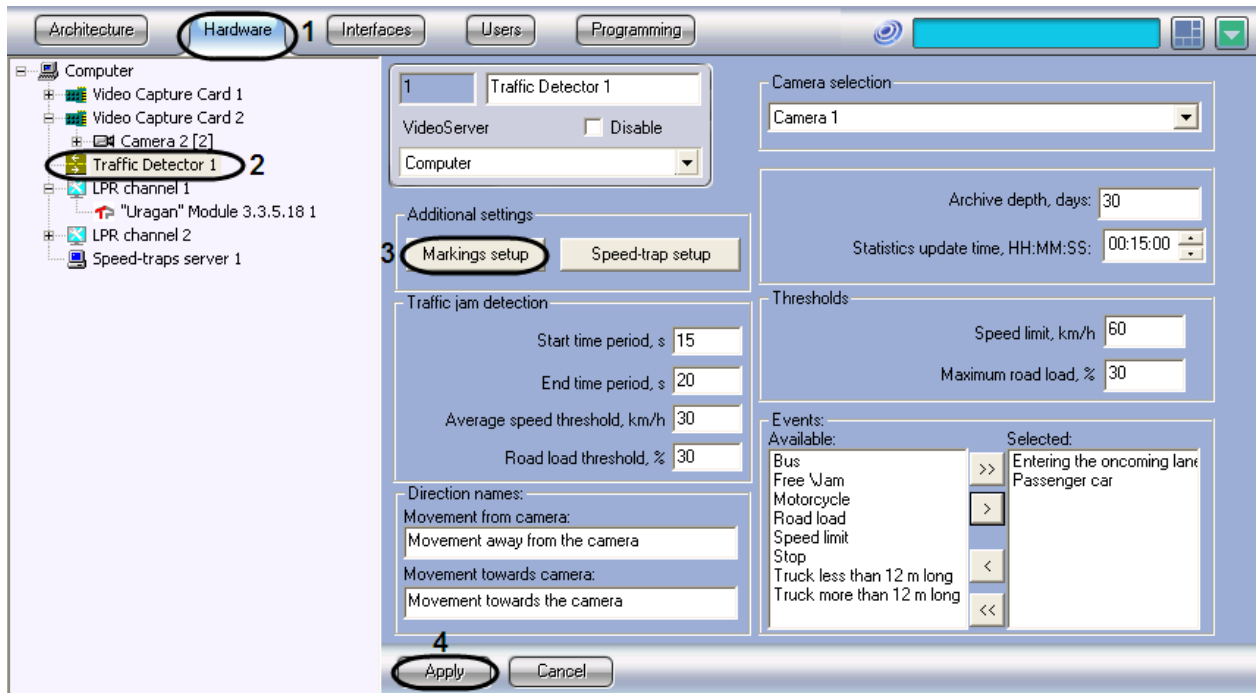

Fig. 7.4—13 Exporting the markings to the file
2. In the object tree on the left side of the Hardware tab, select the Traffic Detector object representing the Traffic Detector module to be set up. The settings panel of the selected object will open on the right side of the window (see Fig. 7.4—13).